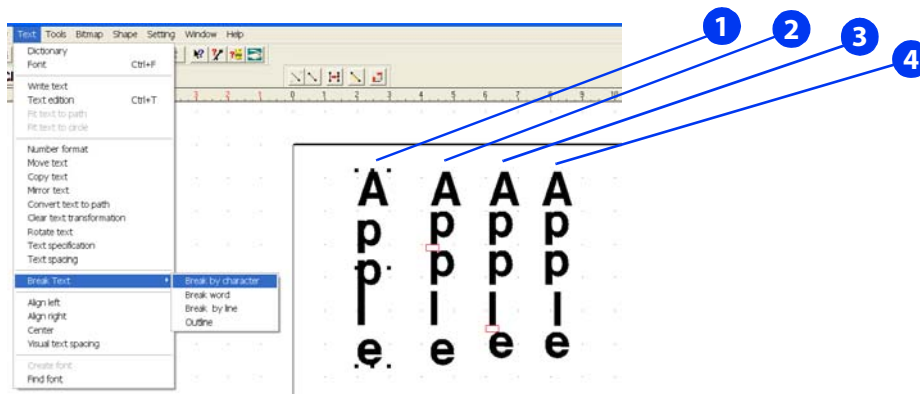

Figure 148
- 3** From the **Text** menu, click **Break Text/Break by Character**. This separates the word into individual letters. See column 1 in figure 148.